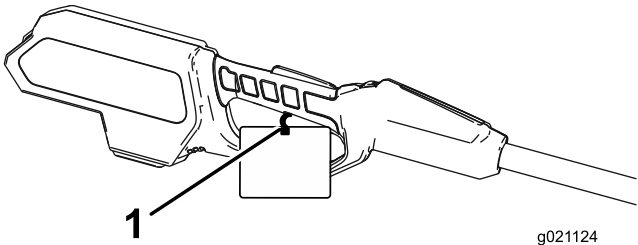

Figure 2
- Cut the cable tie away from your body and remove it from the trigger handle (Figure 2).